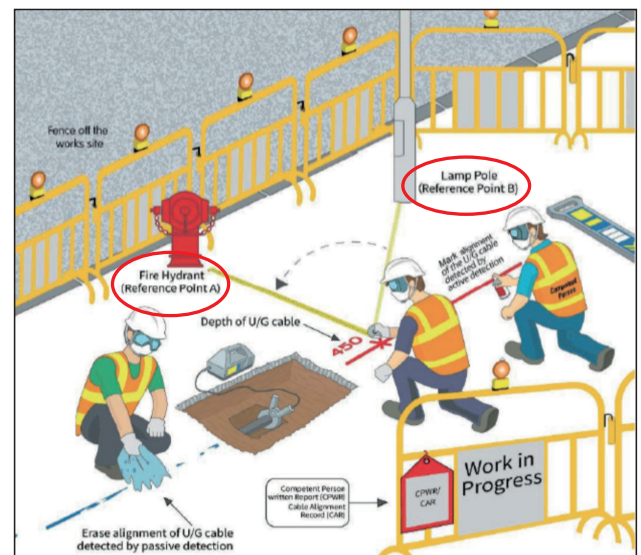

Figure 1
2. a detailed cable layout plan clearly specifying the alignment ascertained for each U/G cable based on common reference points (e.g. lamp pole, traffic light post, or hydrant, etc. (see Figure 1 for details)) and any cable sections in shallow depth is not provided;